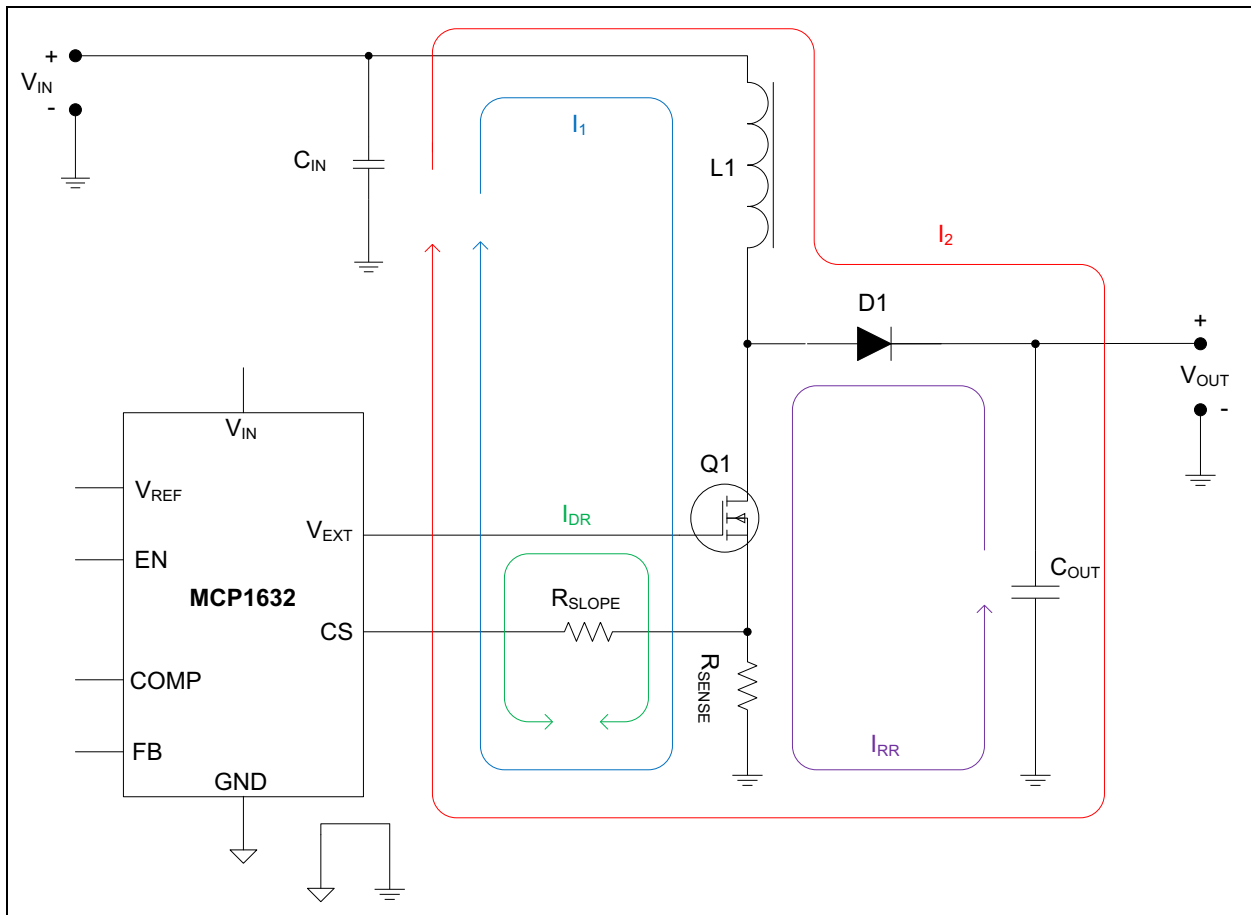

FIGURE 5-5: The Boost Converter's Current Loops.
- Identify the high-current, high-frequency loops before starting the PCB design. Figure 5-5 depicts these loops for boost converters. I_1 and I_2 are the main currents of the boost converter. The I_{RR} is the current produced by the reverse recovery of the output rectifier D1. The I_{RR} current is an important source of noise/EMI.
- Keep the current sense (CS) and feedback (FB) signals away from noisy nodes, such as the drain of the main switch (Q1).